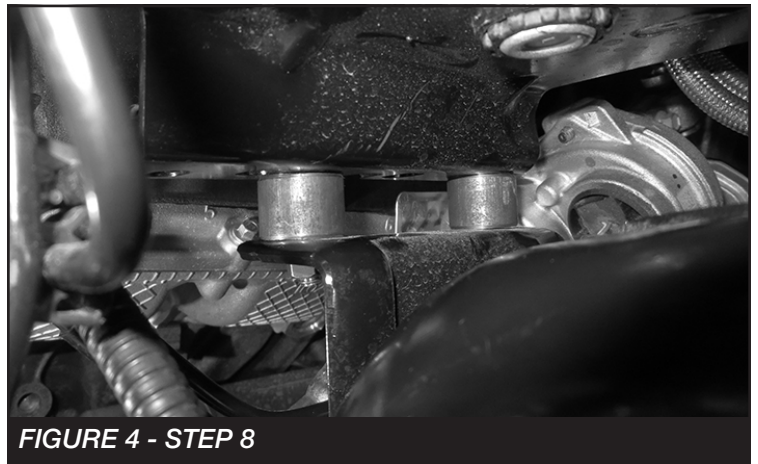

FIGURE 4 - STEP 8
8. **2020 Models** - Install two FT30929 (ABS Module spacer) between the ABS bracket and the upper shock mount bracket using the supplied 5/16" x 1-1/2" bolts, washers and nuts. **SEE FIGURE 4**